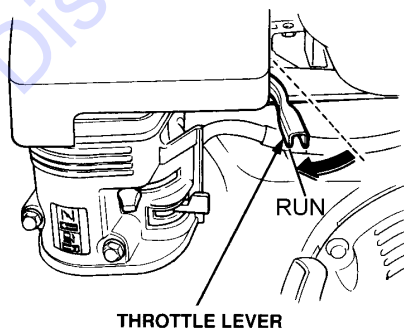

Figure 20. Throttle Lever (Run)
- To begin mixing, place the throttle lever (Figure 20) in the **"RUN"** position.